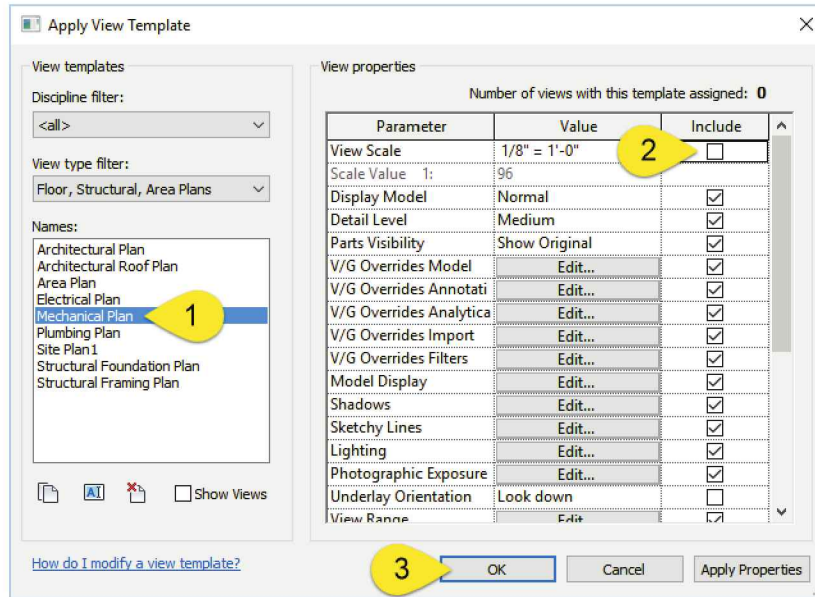

FIGURE 13-2.6 Apply View Template dialog – HVAC Level 1
You are now in the *Apply View Template* dialog (Figure 13-2.6). Take a moment to observe all the settings it has stored and which are about to be applied to the selected view (i.e., the one you right-clicked on).
24. **Uncheck** *View Scale* (Figure 13-2.6).